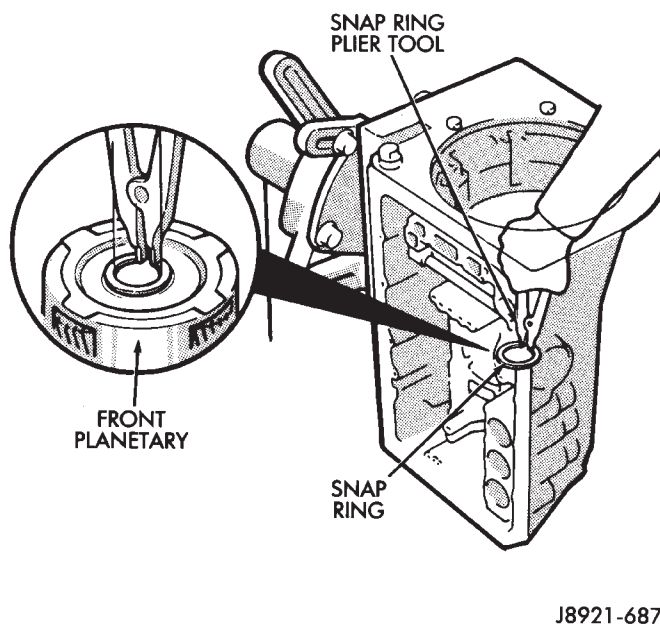

Fig. 20 Installing Front Planetary Snap Ring
(25) Install planetary snap ring on sun gear with snap ring plier tool 7541 (Fig. 20).